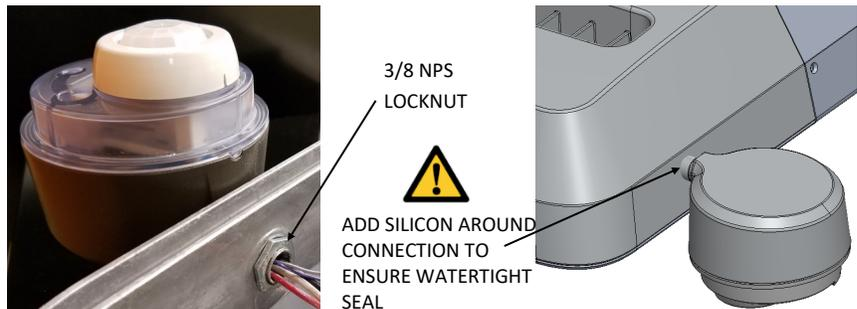

Fig. 3
4. Secure with 3/8 NPS locking nut and tighten to lock Limelight housing in place as shown in Fig. 3.